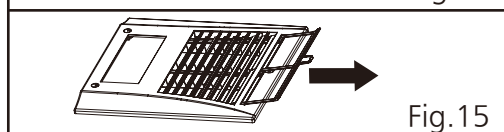

Fig.15
① Pull out the filter mesh from the louver assembly.(Fig.15)